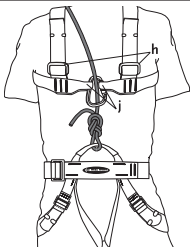

Figure 7
1. Put on the chest harness as shown, with the clip-in loops (j) located at chest height (figure 7).
5. Connect the clip-in loops (j) with a locking carabiner as shown (figure 7).
- ◆ Clip the rope connected to your sit harness through the locking carabiner between the chest harness clip-in loops (j) as shown in figure 7. Be certain the carabiner is fully locked.
- ◆ Clip the rappel rope to the Vario Chest Harness using the chest harness locking carabiner shown in figure 7. To achieve a comfortable sitting angle while rappelling it may be necessary to add a second carabiner or a sling and carabiner between the rope and the chest harness locking carabiner.